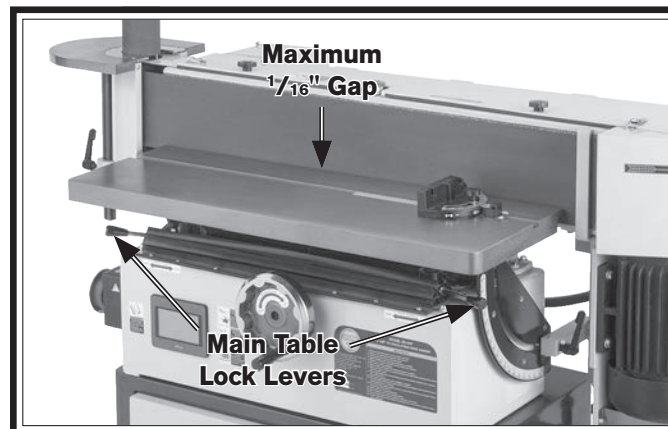

Figure 45. Main table clearance adjustment controls.
1. Move (2) main table lock levers (see **Figure 45**) to loose position as illustrated by labels on machine.
2. Push or pull main table until there is a gap of no more than $\frac{1}{16}$ " from sanding belt (see **Figure 45**).